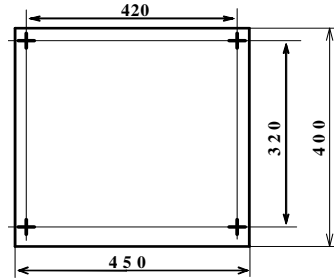

Figure 1
3.1.3 Securely attach the RIP at a suitable place. The overall and mounting dimensions are shown in Figure 1.